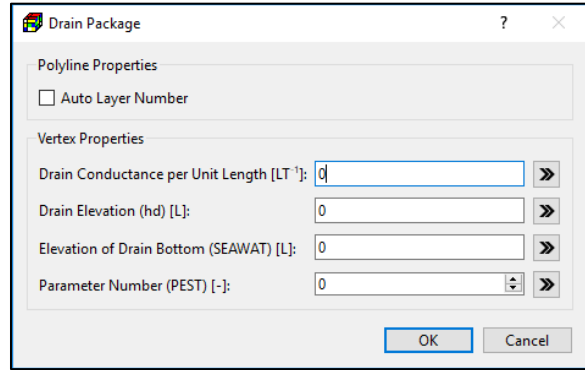

Figure 52. The Drain Package dialog box for specifying vertex properties
2. **Polyline input method:** Figure 52 shows the dialog box that is used to specify polyline and vertex properties.